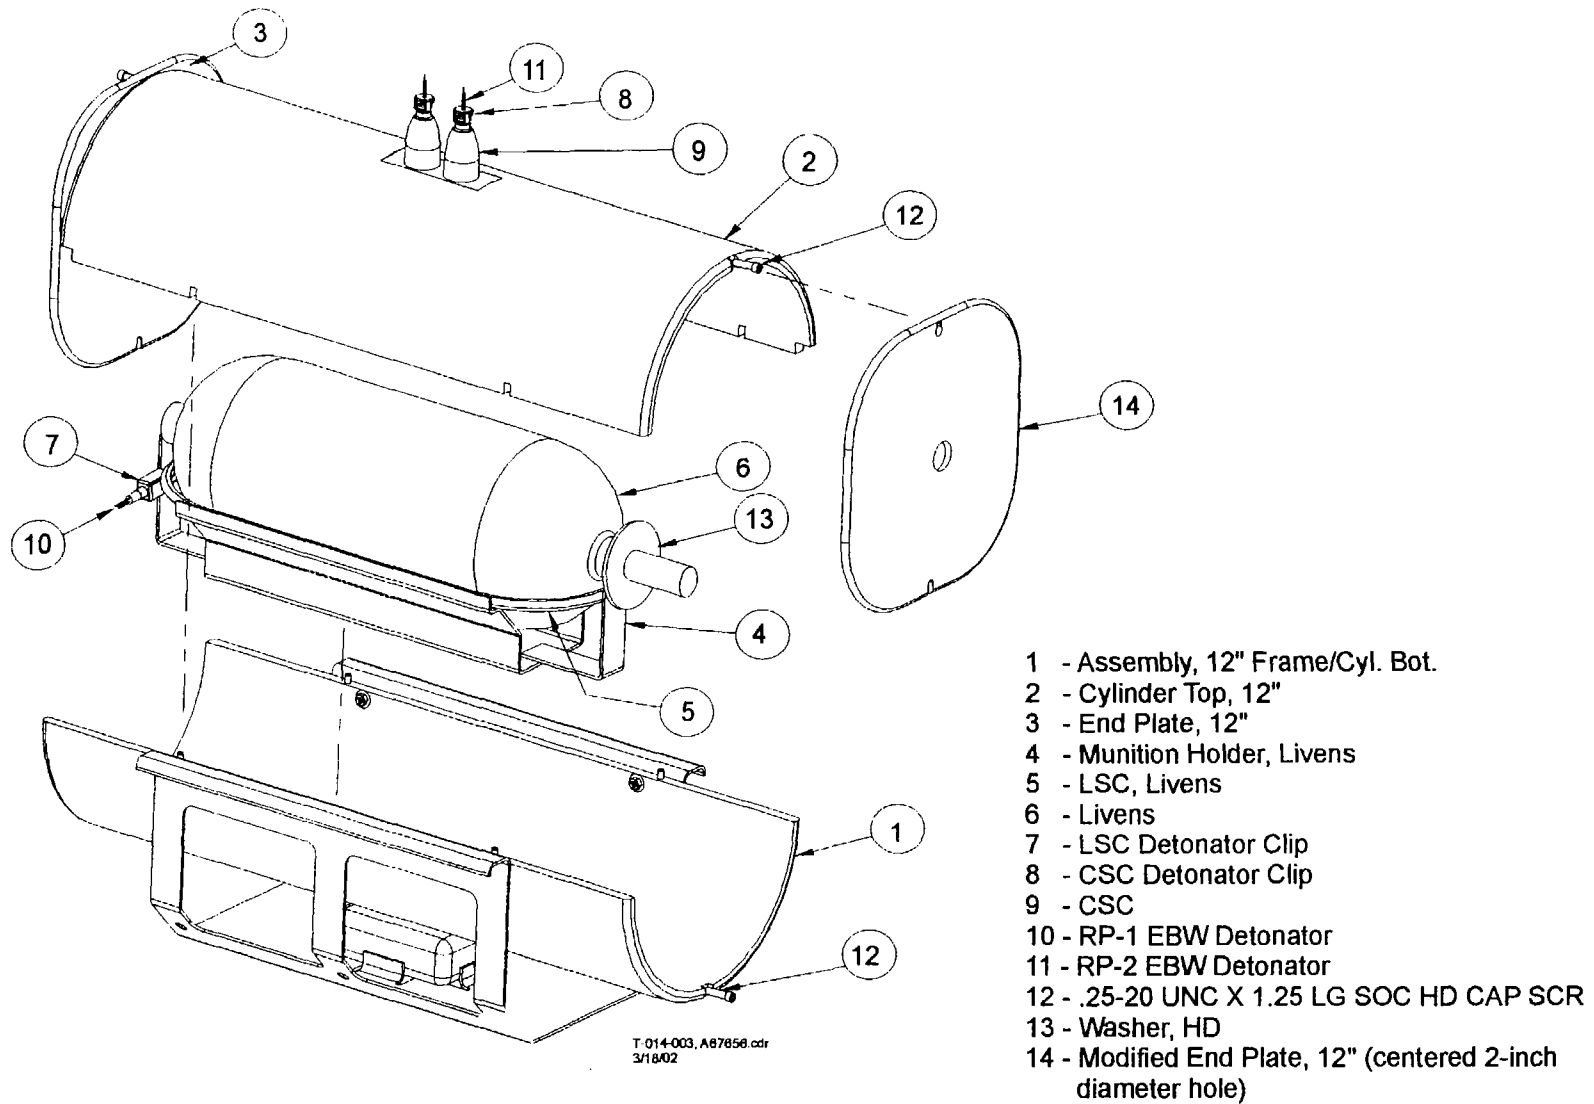

Figure 7-2. Livens Projectile FSS
- 4.1 **POSITION** LSC on munition holder with overlapped detonator ends pointed outward next to long end of two munition holder tabs (Figure 7-2).